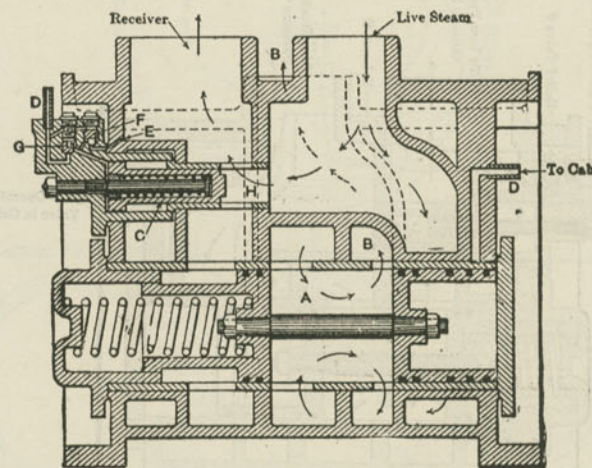
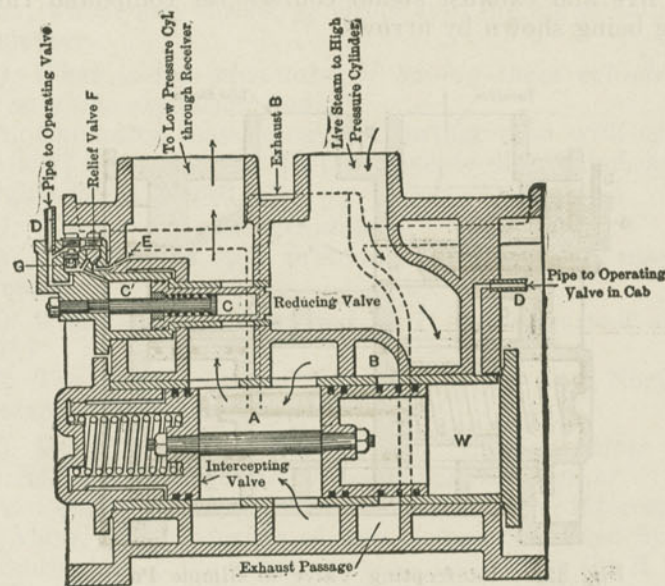
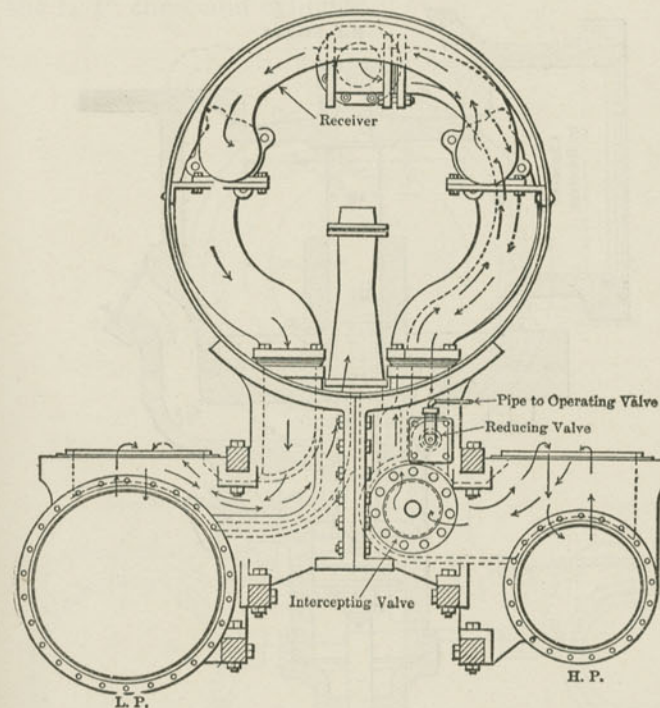

Fig. 329. Intercepting Valve in Simple Position.
Fig. 330. Intercepting Valve in Compound Position.
Fig. 331. Baldwin Two-cylinder Compound.
A. Referring to Figs. 329 and 330, A is the intercepting valve, which consists of two pistons connected by a distance piece, C the reducing valve; both are in the H. P. saddle casting. A directs the H. P. exhaust either direct into the stack or into the L. P. cylinder, at the will of the engineman. C lets reduced-pressure live steam into the L. P. cylinder when working non-compound, but closes automatically when working compound. It also equalizes the pressure on the two pistons. Both valves are spring-seated and opened by steam pressure from pipes D, controlled from the cab. The port E, putting the large end of the reducer in communication with the receiver, is under the poppet valve F, which is open when working
Fig. 329 shows the positions of the two valves for non-compound, Fig. 330 for compound running. Fig. 331 shows the receiver and the steam pipe in the front end; the live and exhaust steam courses for compound running being shown by arrows.